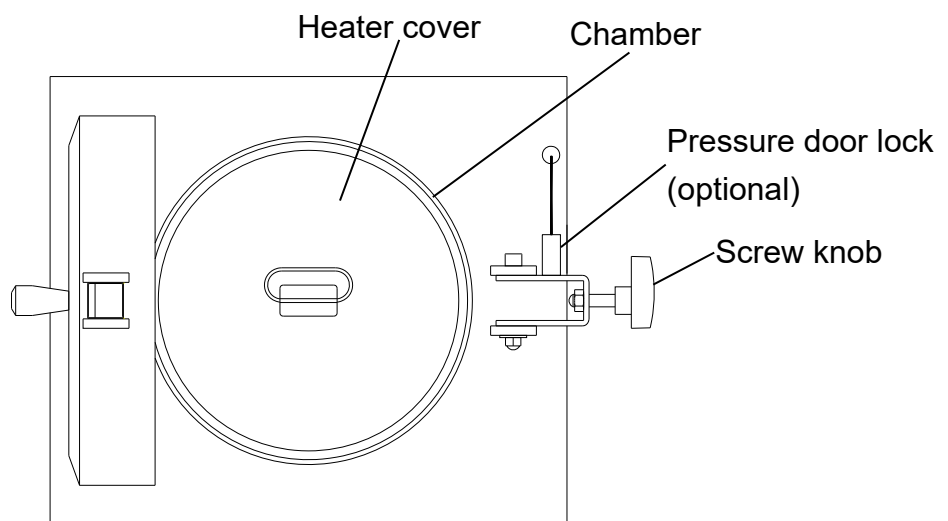

Figure 4
- C. Install the heater cover to the chamber as Figure 4.